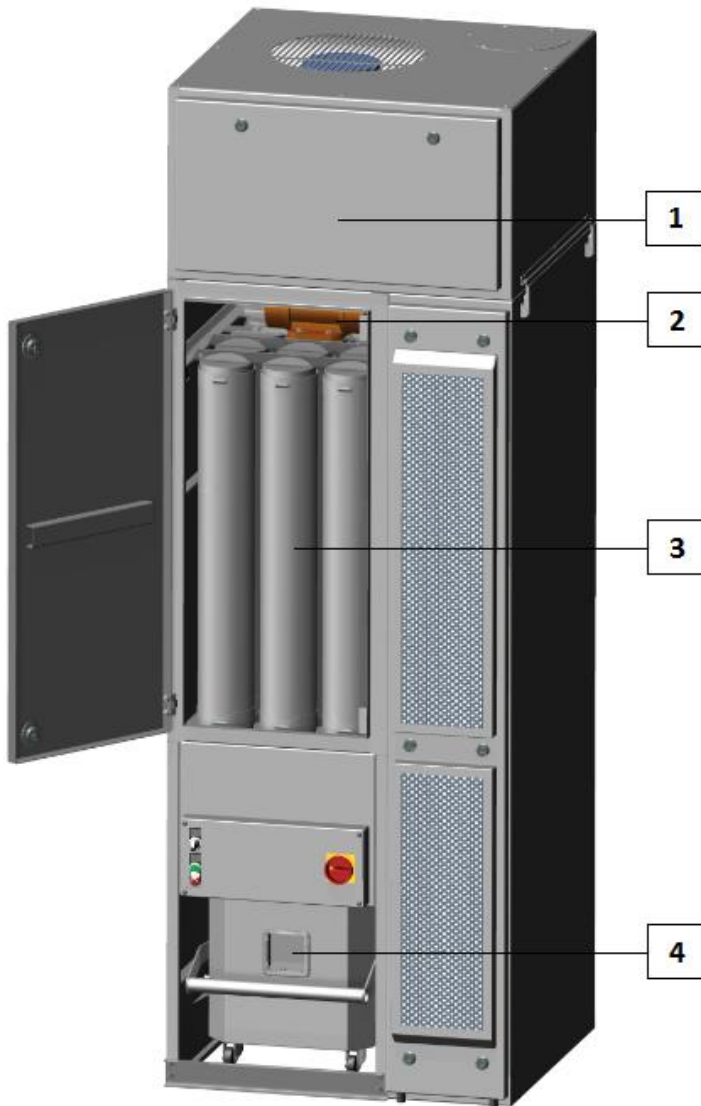

Figure 1: Complete V80C MINI with open door
The model of your V80C MINI may differ from the above shown V80C MINI in Figure 1 and 2. However, operation is the same for any model.
The V80C MINI sucks in "dirty" air. This "dirty" air is generated during grinding and/or milling. The "dirty" air is sucked in by the fan, and this "dirty" air is then blown through the dust filters. This causes dirt to stick on the inside of the dust filters (Figure 1, pos. 3). Next, air is blown from the other side of the fan and air is blown through a fine filter and a post filter (Figure 1, pos. 5 and pos. 6). Very small particles are collected therein. After that, the air is returned to your workplace. As the air is released back to your workplace (and is not blown outside), there is no loss of temperature. This also means that no underpressure occurs in your workplace.
The dirt is collected in the dust filters. Because the dust filters must not get clogged, they have to be cleaned. Cleaning is performed by stopping suction and vibrating the filters. This is done by using the vibrator (Figure 1, pos. 2). The dust falls down from the filters into the dust bag, which is inserted in the container (Figure 1, pos. 4). On the V80C MINI 1.1 kW and the V80C MINI 2.2 kW, cleaning must be performed manually. On the V80C MINI Automatic 2.2 kW, cleaning is performed automatically.